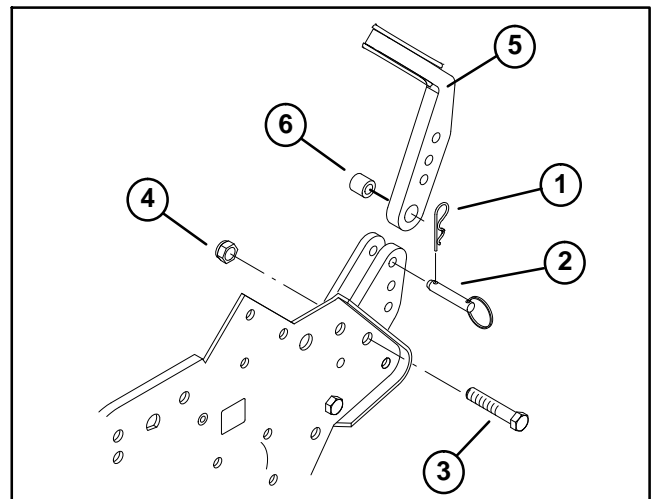

Figure 4
**Note:** The cotter pin, ring pin, cap screw, and lock nut may have to be removed from the handle arms to allow handle removal (Fig. 4).
**Note:** The cotter pin, ring pin, cap screw, and lock nut may have to be removed from the handle arms to allow handle installation (Fig. 4).
2. If the cotter pin, ring pin, cap screw, and lock nut have been removed from the handle arms, reinstall the handle arms to the frame. Make sure spacer is installed in the handle arm. (Fig. 4).